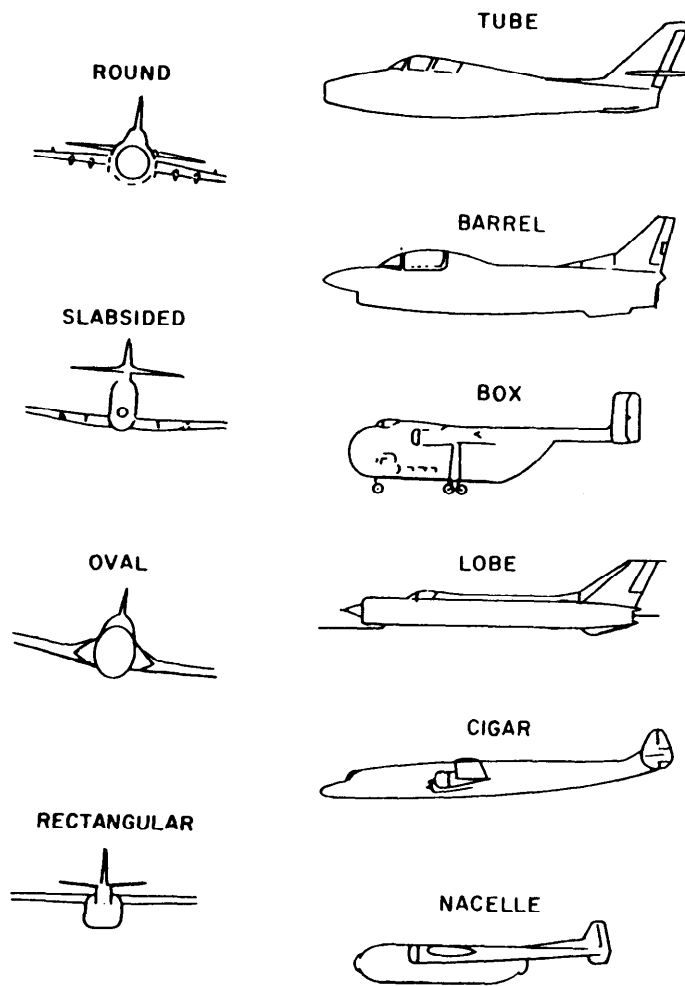

Figure 32.—Fuselage types.
1. Fuselage. The fuselage is the main body of the aircraft where all equipments required for control are located and to which the wings and tail units are attached. The foremost part of the fuselage is the nose. Various types of fuselages are shown in figure 32.